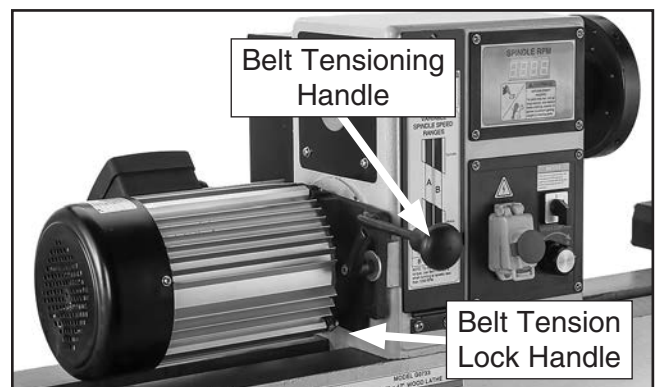

Figure 33. Motor tensioning handle and tension lock handle.
3. Loosen the belt tension lock handle (see **Figure 33**).
4. Use the belt tensioning handle (see **Figure 33**) to lift the motor assembly all the way up, then re-tighten the belt tension lock handle—this will hold the motor in place while you change the belt position.